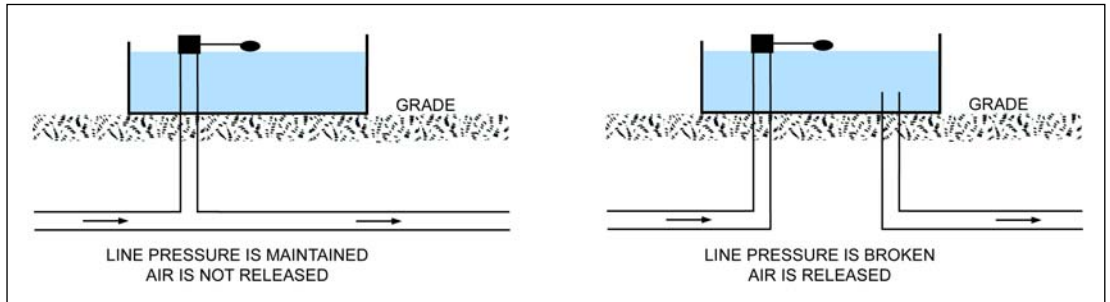

Figure 6 Using a Trough to Release Air
- if appropriate, locate a trough at a high point to release air (Figure 6, page 11)